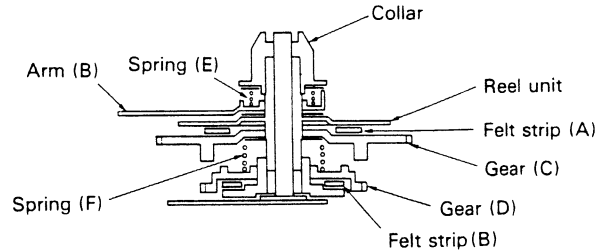

Fig. 22
4. Based upon a friction mechanism, part of the reel rotates while part is motionless. Motion is transferred from the flywheel by gear (C) (Figure 22). Pressure applied by spring (E) causes the transfer of motion from gear (C) to the reel unit.